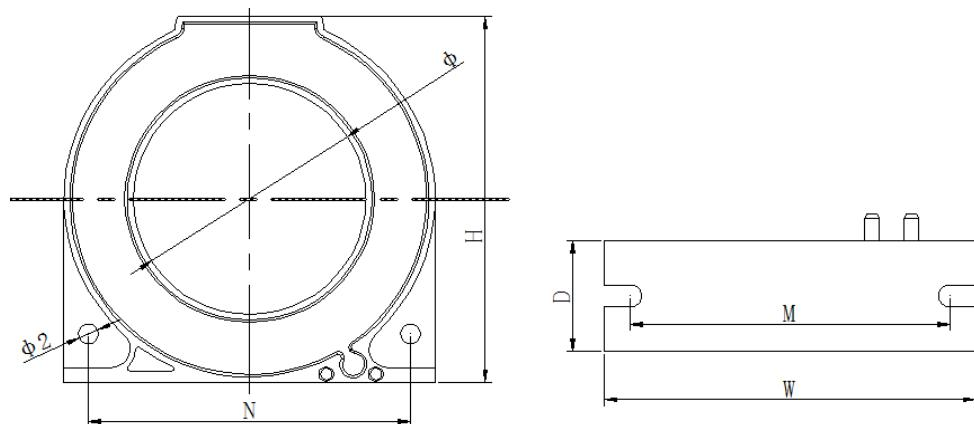

Fig. 8 External dimensions of leakage current transformer
5.4.4 The external dimensions of the leakage current transformer are shown in Figure 8 and Table 6 (unit: mm) :